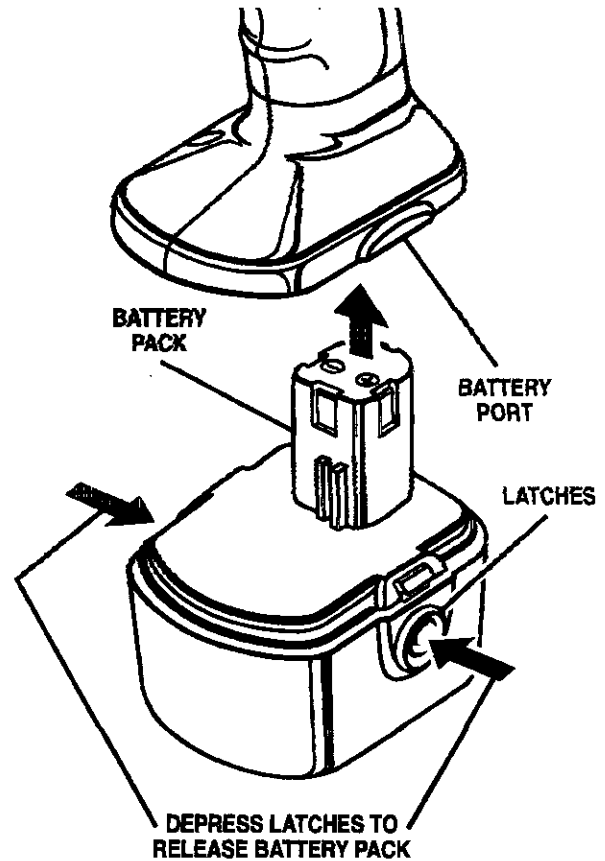

Fig. 4
- Place the battery pack in your drill. Align raised rib on battery pack with groove in drill's battery port. *See Figure 4.*
- Locate latches on side of battery pack and depress both sides to release battery pack from your drill. *See Figure 4.*